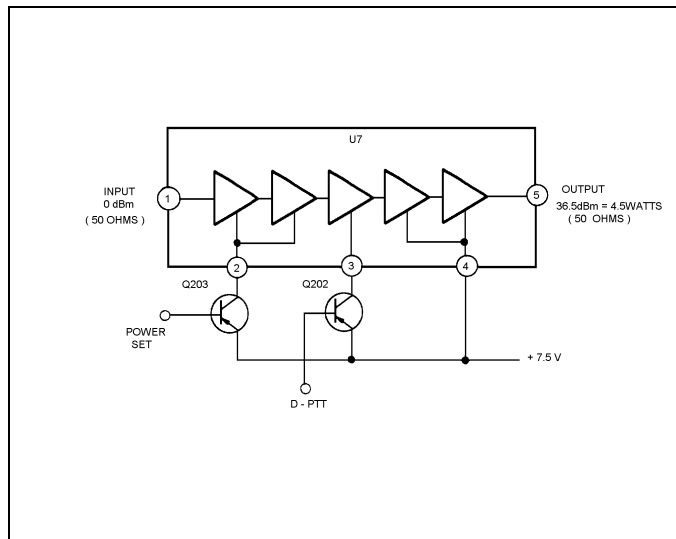

Figure 6 - Power Amplifier (PA)
Power Amplifier (PA) U7 is a five-stage, wideband amplifier module with an input and an output impedance of 50 ohms (Figure 6). The first stage of the PA module has the dc power supplied by power set transistor Q203. The rf power output from multiplier is connected through a HPF to pin 1 of the PA module where it is applied to the input of the rf power amplifier stages. The rf power amplifier stages amplify the input from the Tx-Amp module to a typical power output level of 4.5 watts at pin 5. The output at pin 5 is connected through the HPF and LPF/DC/SW module. A mini-